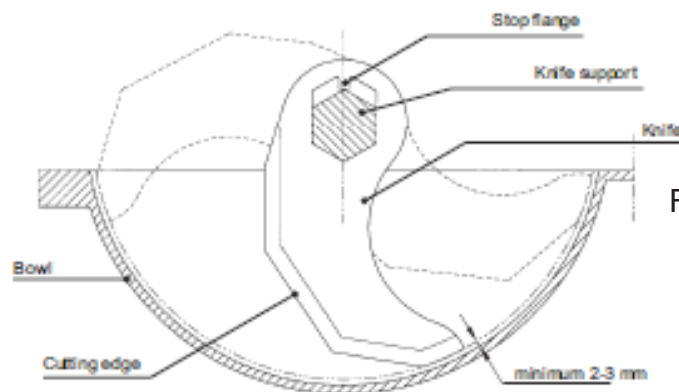

Fig. 3 - Knives Adjustment
- Adjust each knife so that there is a 2-3 mm space between each knife and the bowl (Pg. 12, Fig. 3). For this adjustment we recommend using a space gauge made of a pliant material (cardboard, cork, etc.) to follow the path marked by the end of each knife and a plastic mallet to adjust the knives accordingly.
be reduced more than 1 cm from its original size. Once the knives have been sharpened, before reinstalling them in the machine, a small space should be filed from the stop flange located in the hexagonal area (Fig. 3) to compensate for any possible shortening of the knives. To clean the knife surfaces, use a product with anti-corrosive properties. Always store the knives in their packaging; this will help maintain the cutting edge and it will protect them from any accidental bumps or friction. Always transport the knives in their packaging when possible. To adjust or move the knives always use adequate safety measures and equipment.